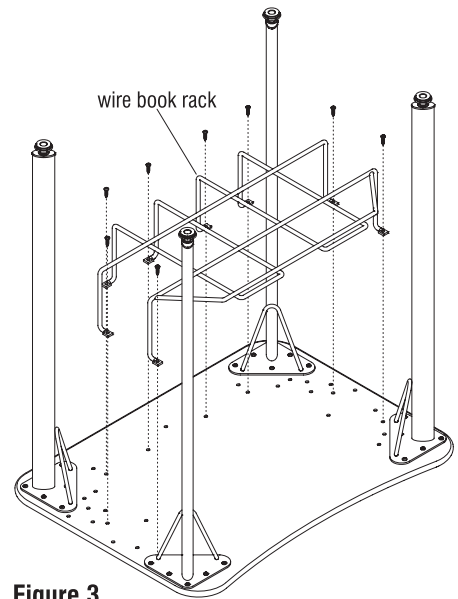

Figure 3
1. Carefully turn the desktop upside down on a soft, protective surface (Figure 3).
2. Position the wire bookrack, as illustrated onto the underside of the desktop. Align bookrack to pre-drilled holes in desktop. Using the appropriate screws (See Details A & B, page 1), secure the wire bookrack to the desktop. Do not over-tighten screws (Figure 3).